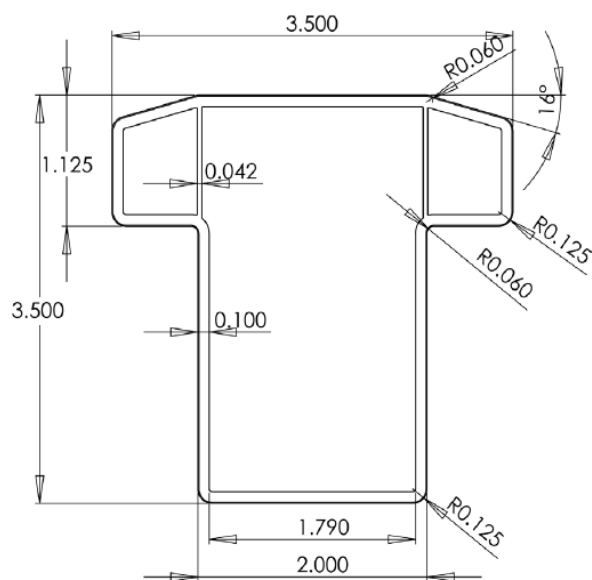

FIGURE 3 – VINYL "T" RAIL
3.1.1. Top rails in the *Fairfield, Brookfield, Charleston, and Lexington* series are a "T"-Rail profile. See Figure 3.